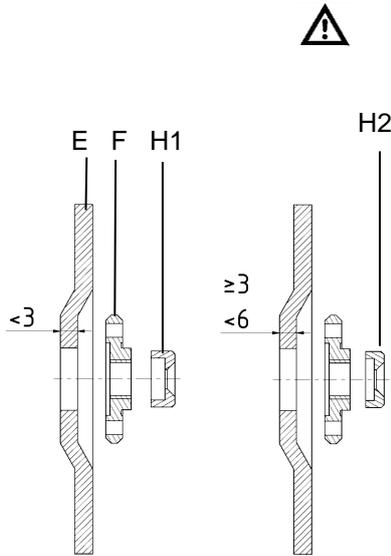

Fig. 2a
The mounting flange clamps the grinding disc with its flat side (Fig. 2a).
- Tighten the mounting flange with the wrench (G).
- Secure the flange with the washer (H) and the screw (J). Use the wide washer (H1) or the narrow washer (H2) as shown in Fig. 2a and 2b.